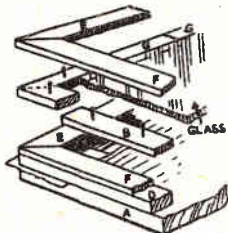

Fig. 1—The layers of the frame
strips on the backboard to ensure correct size, and when gluing the corners put in a piece of thin paper to prevent the glue running on to the backboard (A). You can see this piece in the detail at Fig. 1.
To form the rebate for the glass, a framework of $\frac{1}{2}$ in. wood is now glued on. This consists of the parts (G) and (H), and their position is shown in Fig. 1. Notice the angle of (G) goes round the corner, and so when glued, helps to bind the mitred framework beneath. In addition to glue, you can add $\frac{1}{2}$ in. fret pins if you desire.